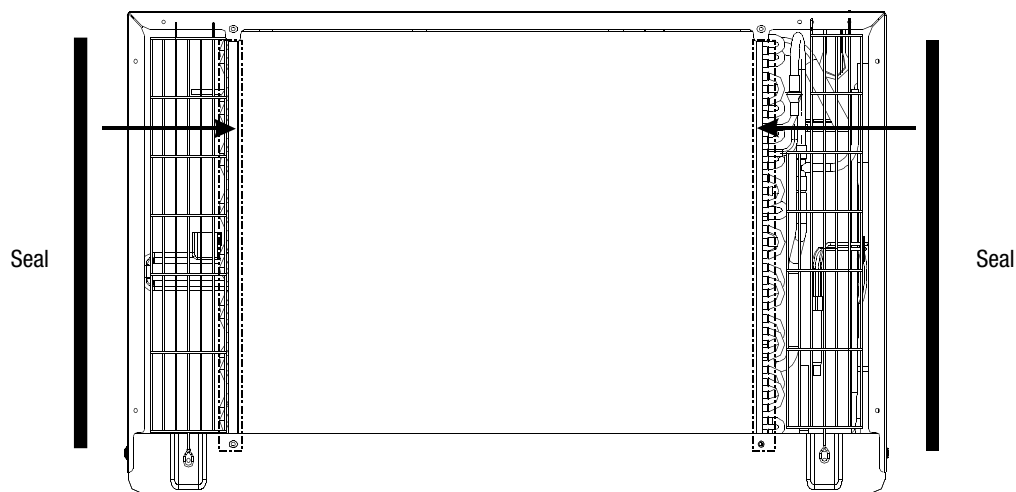

FIG. 1
1. Attach the 2 seal pieces (1" x 3/8" x 14") as shown in Fig. 1.